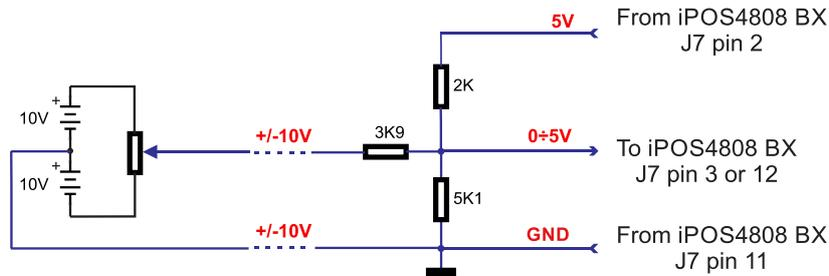

Figure 3.8. +/-10V to 0-5V adapter
1. Default input range for analog inputs is 0-5 V for REF and FBDK. For a +/- 10 V range, see Figure 3.8.